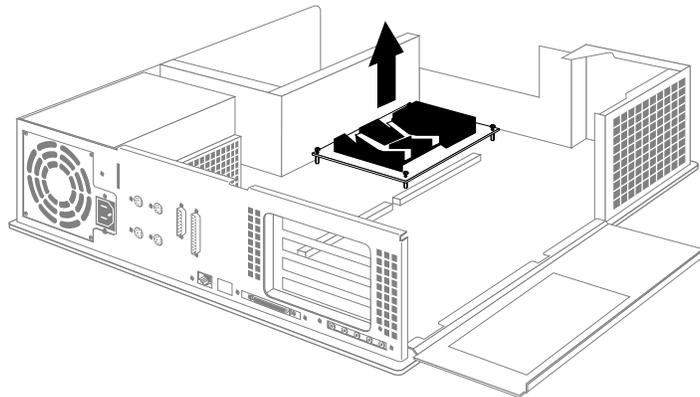

Figure 7 Removing the CPU module.
The CPU module is the large elevated module on the CPU board that is protected by a textured heat sink. It contains the CPU chip, cache, and CPU clock crystal. Figure 7 shows the CPU module as viewed from the rear of the system.
- Remove the screws on the corners of the module that attach the CPU module to the board, as shown in Figure 7.